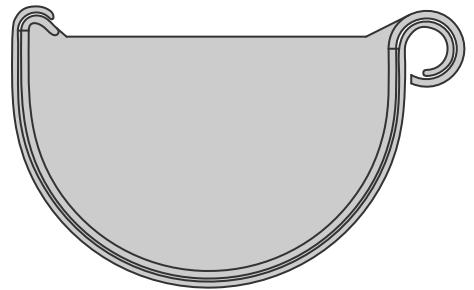

Fig. 19
11.2. Rotate the end cap and engage underneath the rear facing bead. Fig 19.